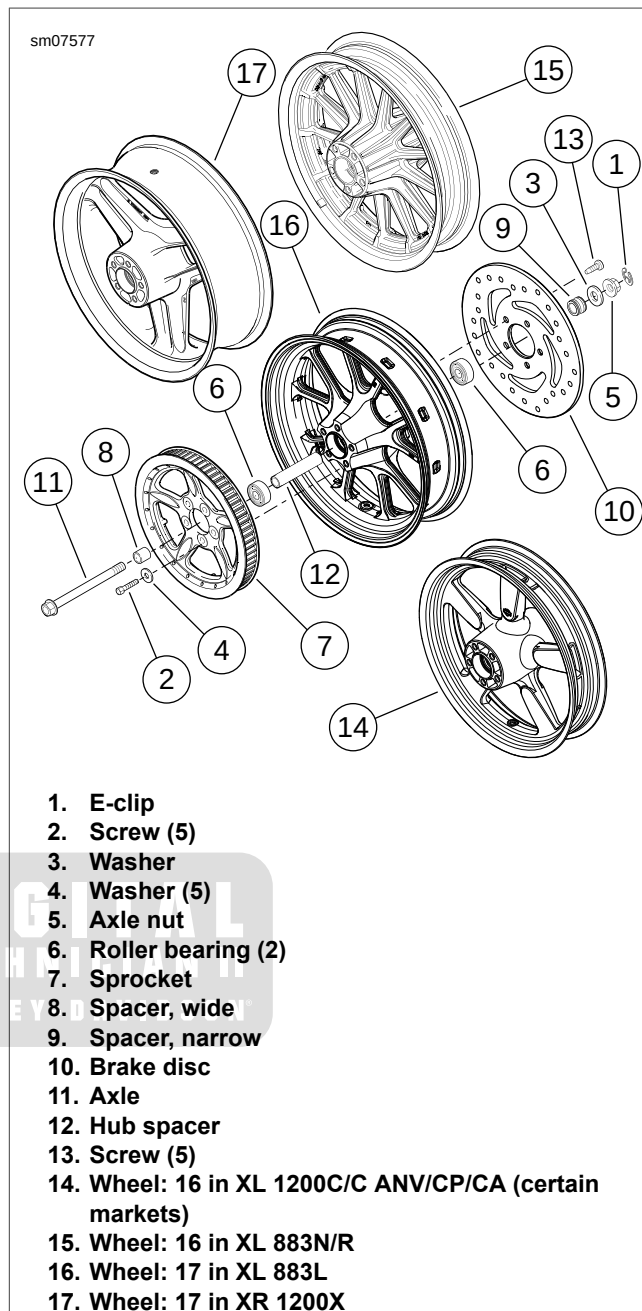
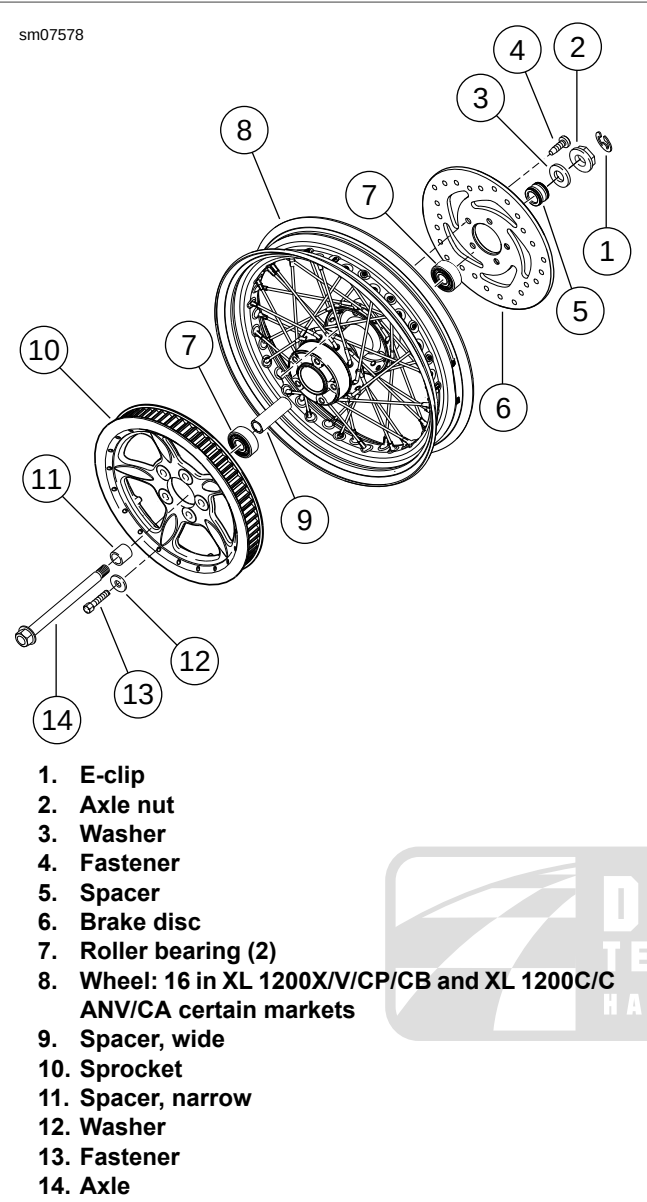

Figure 2-19. Cast Rear Wheel
Figure 2-20. Laced Rear Wheel
2. See Figure 2-19 or Figure 2-20. If necessary, remove screws to detach rear brake disc from left side of wheel.
- a. **Cast or disc wheel:** See Figure 2-19.
- b. **Laced wheel:** See Figure 2-20.
1. See Figure 2-19 or Figure 2-20. Apply a light coat of ANTI-SEIZE LUBRICANT to the axle, bearing bores, and hub spacer bore.